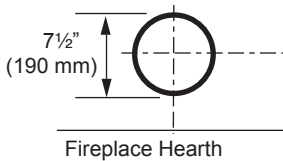

Figure 26 -
Locate vent opening on the wall. It may be necessary to first position the fireplace and measure to obtain hole location. Depending on whether the wall is combustible or noncombustible, cut opening to size. *Figure 26* (For combustible walls first frame in opening.)
Combustible Walls: Cut a 9 5/8" H x 9 3/8" W (244 x 244 mm) hole through the exterior wall and frame as shown. *Figure 26*
1. Establish vent hole through the wall. *Page 22, Figure 26*